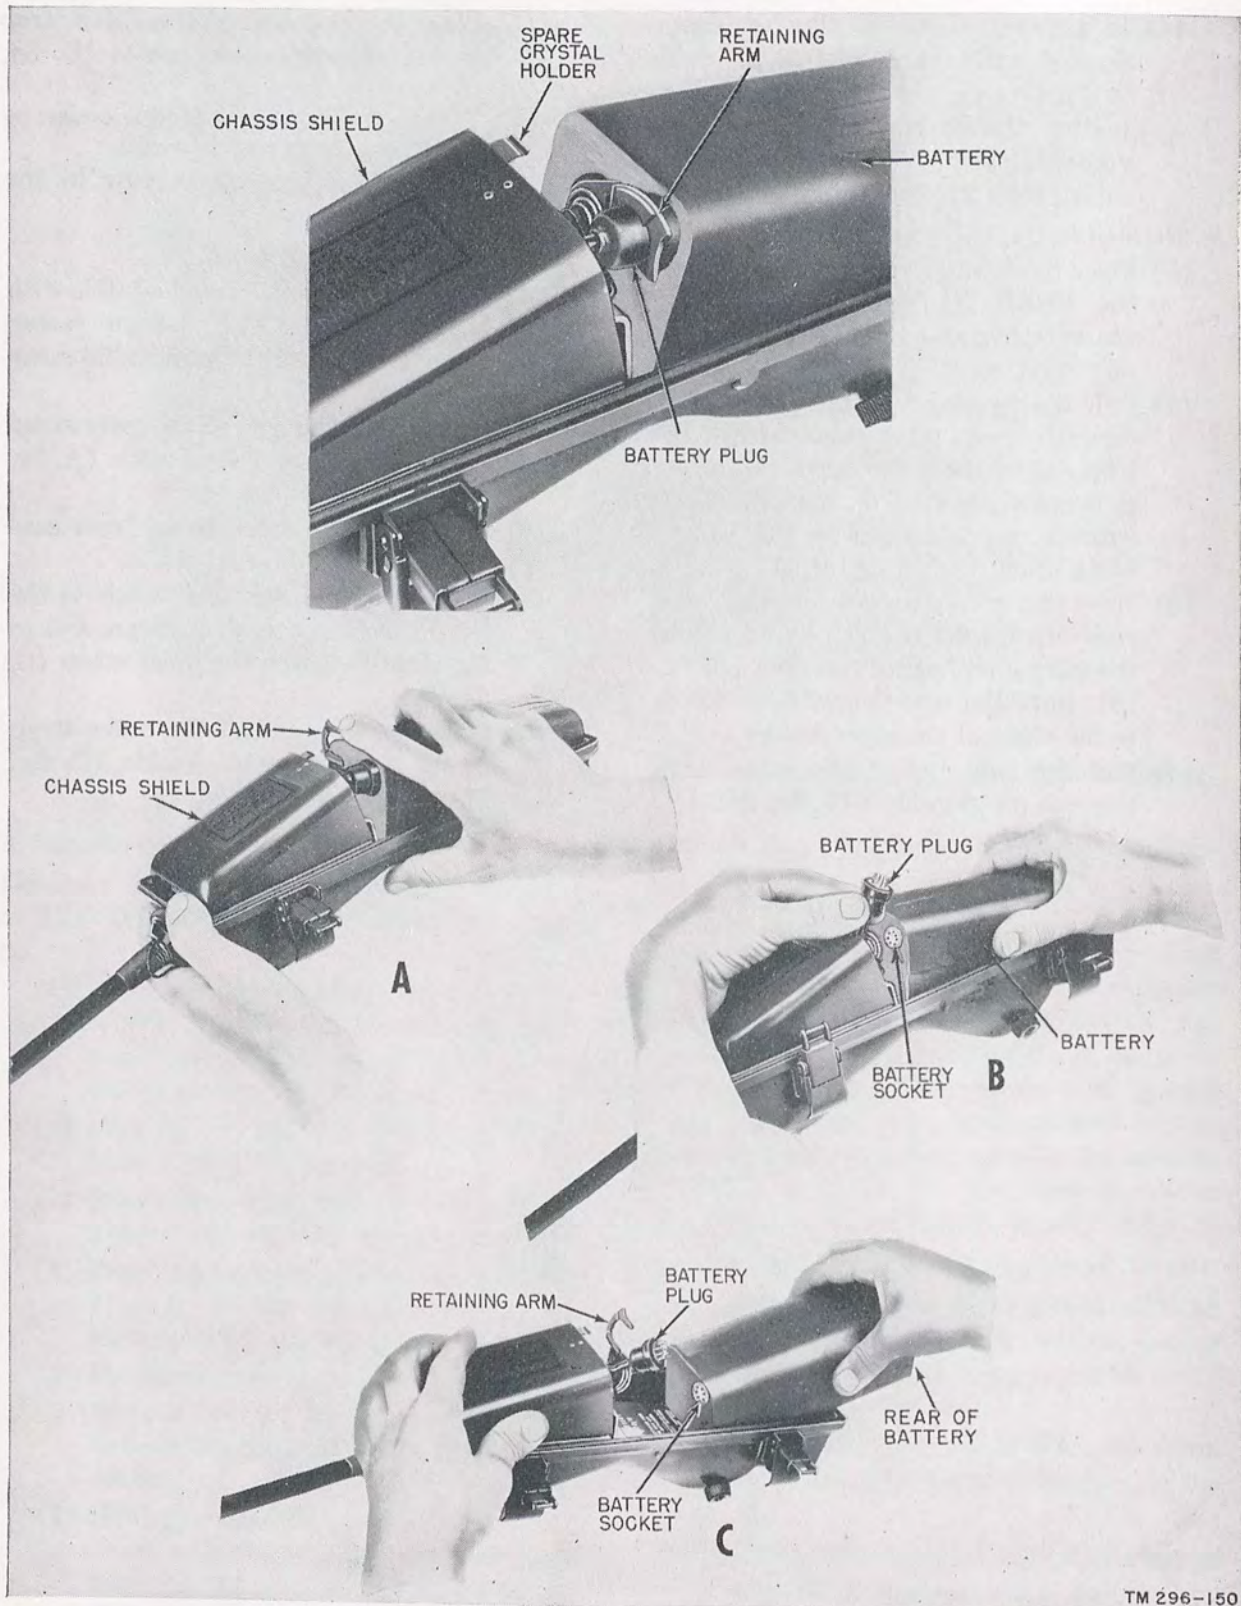

Figure 17. Removal of Battery BA-270/U.
16. Removal and Installation of Battery BA-270/U (figs. 17 and 18)
- (1) Remove the antenna from the stored position.
- (2) Open the four latches (two on each side) of the case of the handie-talkie; and open (pull apart) the two-piece case.
- (3) Open the retaining arm (A, fig. 17). In the closed position, the retaining arm locks the battery plug in place.